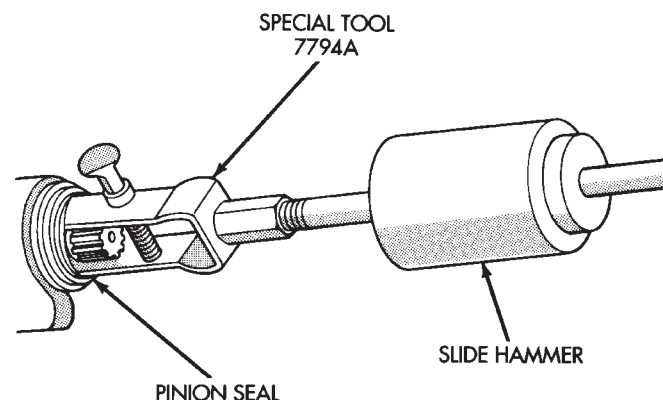

Fig. 6 Seal Removal
(7) Use Remover 7794A and slide hammer to remove the pinion gear seal (Fig. 6).